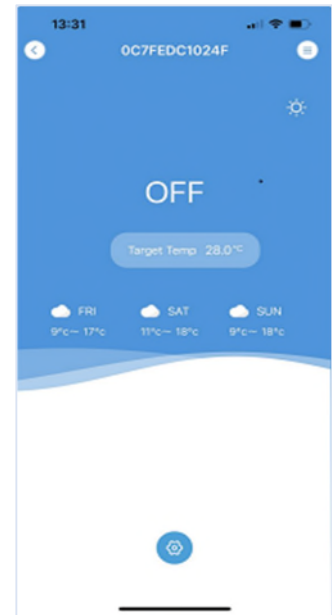

Fig. 40
16. Select the new device on the My Device screen (1) to access the main user interface [Fig.40].